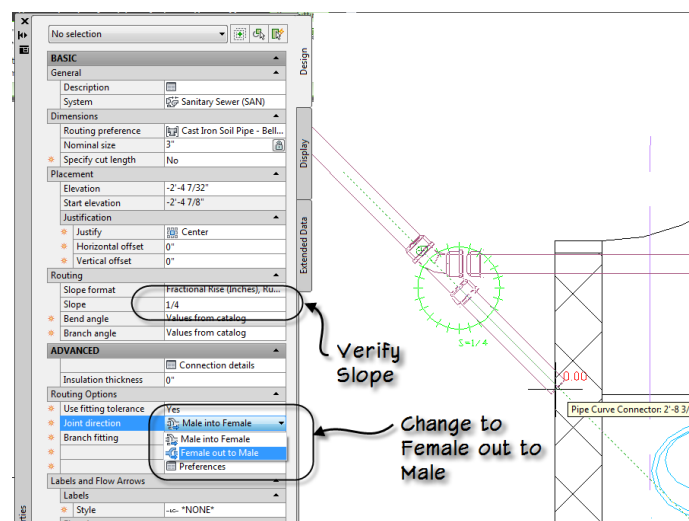

Figure 6.64
23. On the Properties palette, in the Routing grouping, verify the slope is set to **1/4"** (see Figure 6.64).
24. Under the Advanced Section change the Joint Direction to Female out to Male (see Figure 6.64).